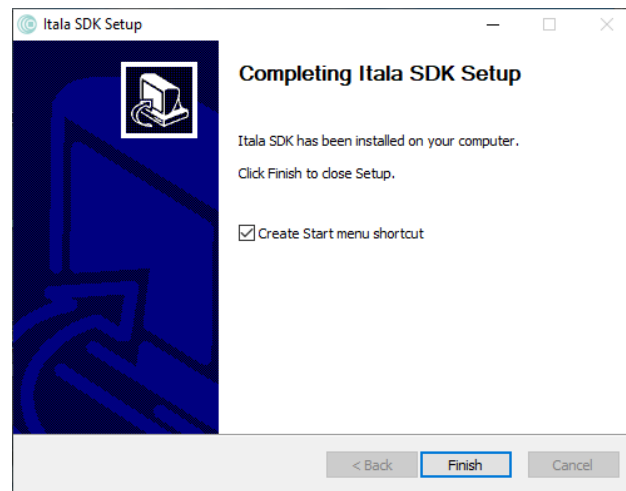

Figure 14: Itala SDK installation finished successfully.
7. The Itala SDK installation will be performed automatically. The progress bar can be monitored to check the installation status. At the end of the installation, a confirmation window will be displayed (Fig.14).